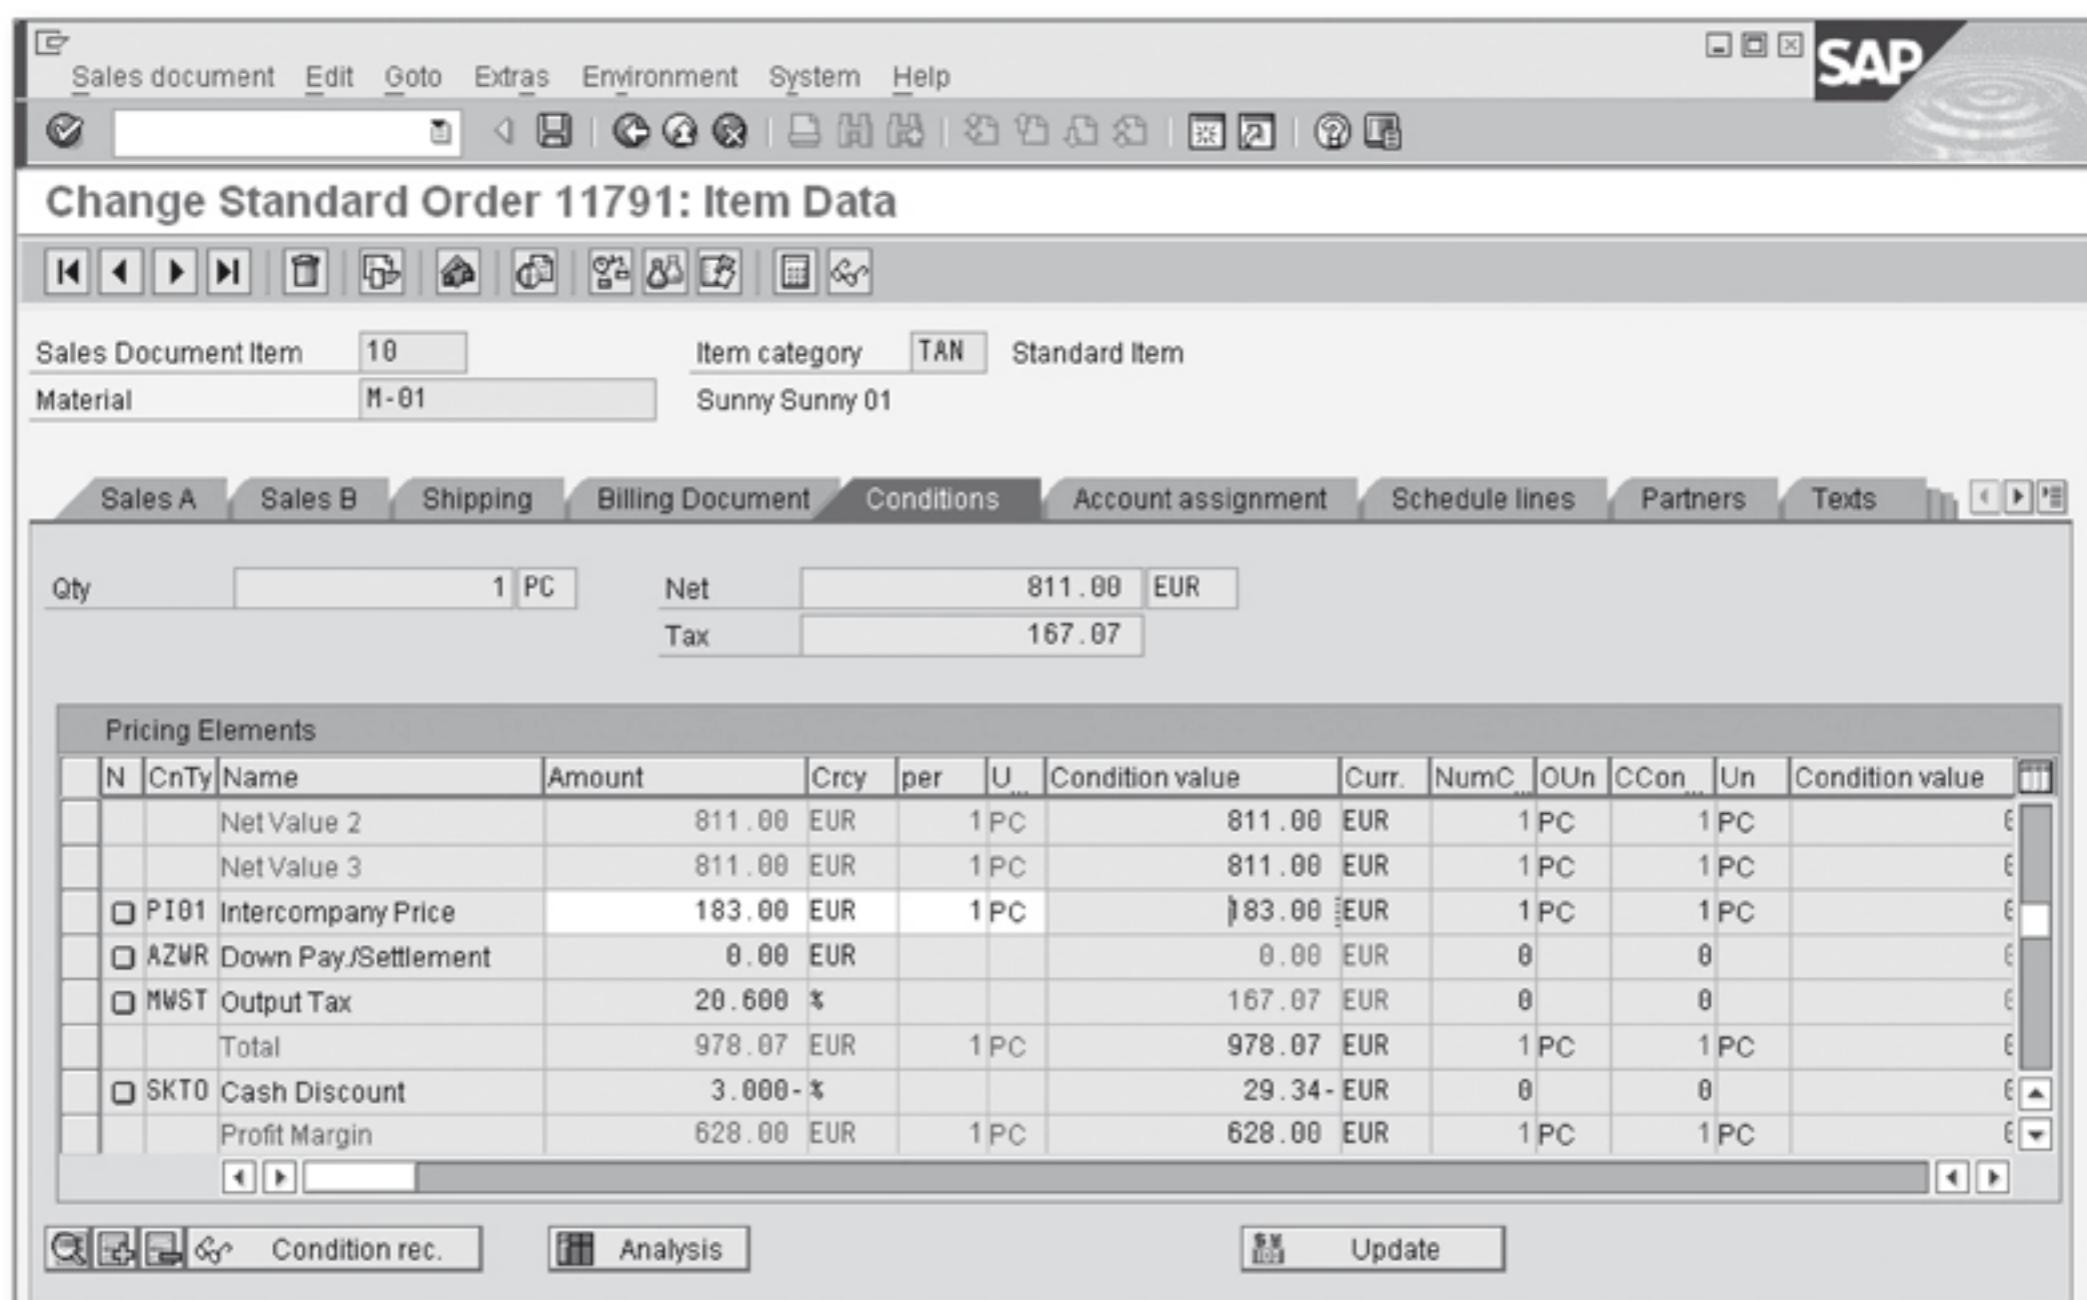

Figure 3.52 Cross-Company Sales Order – Intercompany Pricing Record
6. Check your pricing condition details. Unlike a standard order, you'll have additional conditions showing. The condition type PR00 represents the price that is to be billed to the customer. But you'll find other conditions such as PI01 as shown in Figure 3.52.